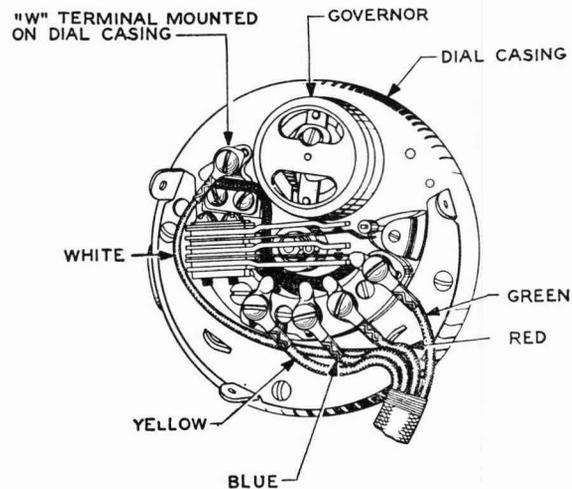

Fig. 3—Method of Cording Dials Having a Separate W Terminal Mounted Directly on the Dial Casing, Using D5P or No. 765 Cords
B. Nos. 34G and 34H Dial Mountings Used With Dials Having the W Terminal Mounted Directly on the Dial Casing (See Fig. 3) and Where the W Terminal Is Mounted Under the Spring Assembly Mounting Screw
5.02 **Dials Having a Separate W Terminal Mounted Directly on the Dial Casing (See Fig. 3) and Dials Having a W Terminal Mounted Under the Spring Assembly Mounting Screw:** The procedure is the same as that outlined in 5.01 except that the white lead or the lead with the white tracer should be run to the left of the contact spring assembly as viewed from the terminal side of the dial with the governor uppermost.